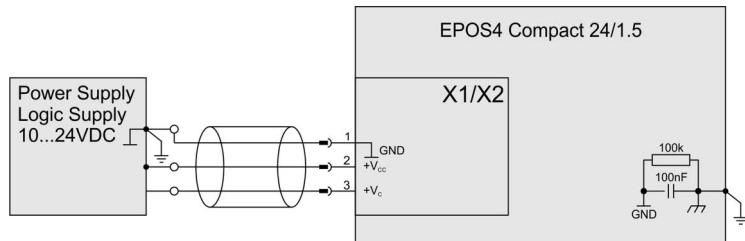

Figure 5-66 Power & logic supply
**Power supply & optional logic supply** ..... Figure 5-66
Power supply & optional logic supply ..... Figure 5-66